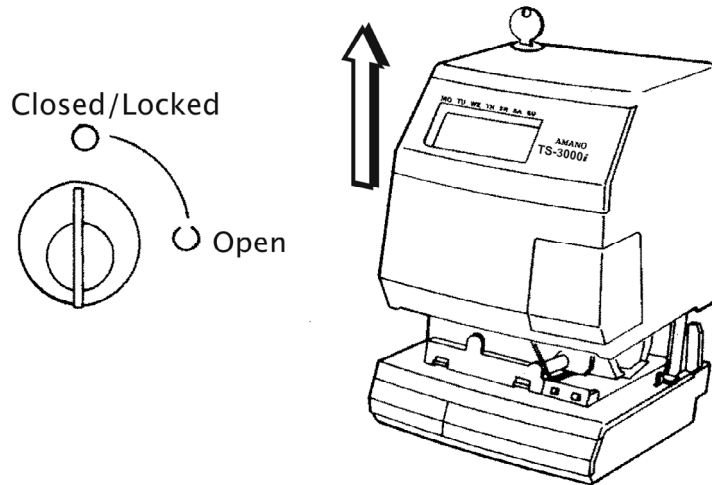

Figure 2-2: TS-3000i Web Clock Cover Removal
Step 2. Insert the key, turn the key clockwise, and remove the upper cover of the TS-3000i (see *Figure 2-2*).
- Step 14.** Replace the upper cover of the TS-3000i (see *Figure 2-2*).
- Step 15.** Insert and tighten the two (2) top plate side retaining screws (one on each side).
- Step 16.** Replace the upper cover of the TS-3000i (see *Figure 2-2*).